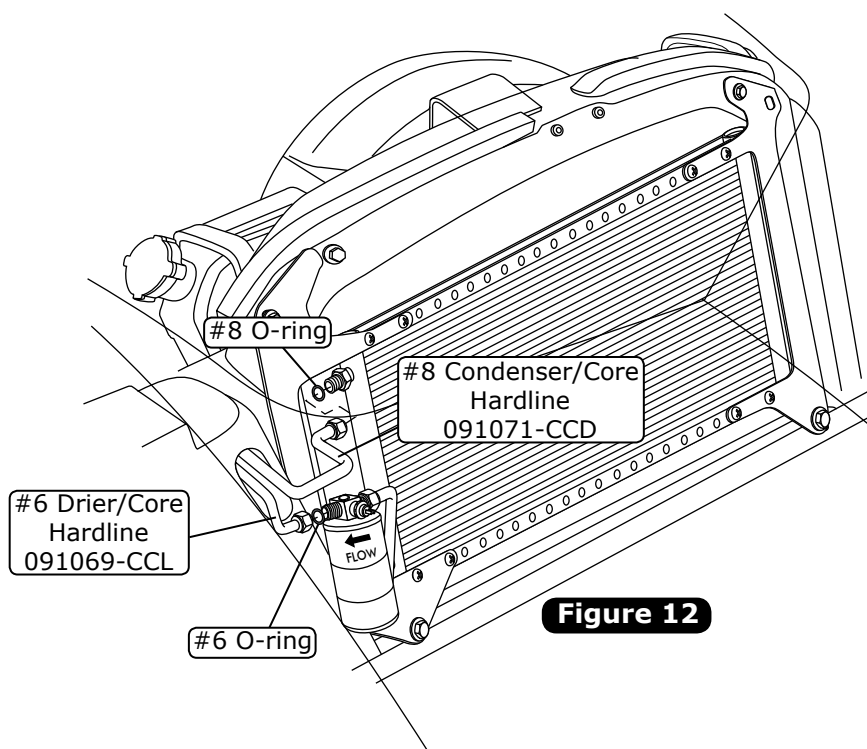

Figure 12
1. Lubricate a #8 O-ring and install the #8 condenser/core hardline as shown in Figure 9, Page 9, and Figure 12, below. **NOTE: Do not fully tighten the #8 hardline at this time. Hand tighten only.**
2. Lubricate a #6 O-ring and install the #6 drier/core hardline as shown in Figure 9, Page 9, and Figure 12, below. **NOTE: Do not fully tighten the #6 hardline at this time. Hand tighten only.**